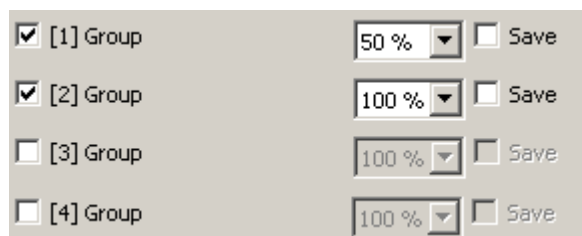

Figure 50: Example of a group assignment to a scene
Groups and single devices can be assigned to a scene without restrictions. Each group and each single device can be assigned independently by activating the checkbox in front of the group or single device name in the scene configuration (figure 50). Groups and single devices, whose checkboxes are not activated, are not assigned to the scene. Any non-created groups or single devices of the DALI Gateway are greyed out and thus cannot be edited.
- In the parameter node "Scenes -> [x] Scene name", specify the necessary scene brightness value for each DALI group assigned to the scene and each assigned single device (figure 50).
- In the parameter node "Scenes -> [x] Scene name" activate the "Save" checkbox for the DALI groups and single devices, which are to react to the memory function (figure 50).